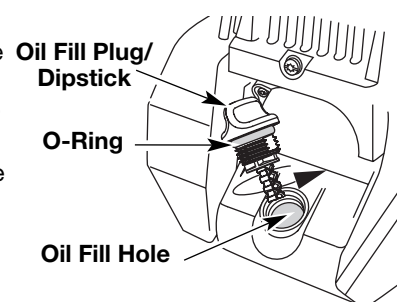

Fig. 23
6. If the level is low, add a small amount of oil to the oil fill hole and recheck (Fig. 23). Repeat this procedure until the oil level reaches the top of the dipstick.
NOTE: Make sure the O-ring is in place on the oil fill plug/dipstick when checking and changing the oil (Fig. 23).